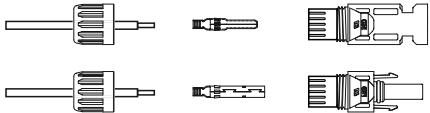

Figure 5.11 Disassemble the Connector Cap nut
1. Strip off the DC wire for about 7mm, Disassemble the connector cap nut. (see Figure 5.11)